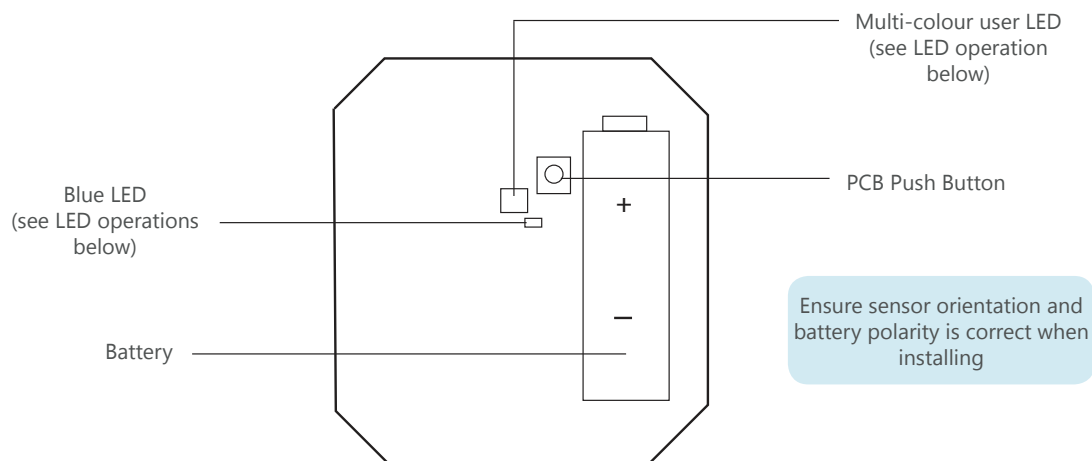

Figure 1.0
- (1) this device may not cause harmful interference
- (2) this device must accept any interference received, including interference that may cause undesired operation.
- Ensure the sensor is installed in the correct orientation*. See Fig. 1.0.